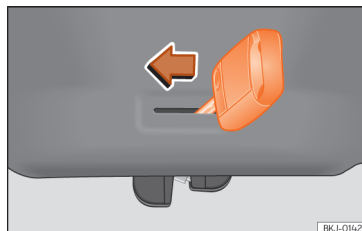

Fig. 56 Luggage compartment: manual release.
- Insert the key blade into the slot and move the key in the direction of the arrow until the lock unlocks >>> **Fig. 56**.